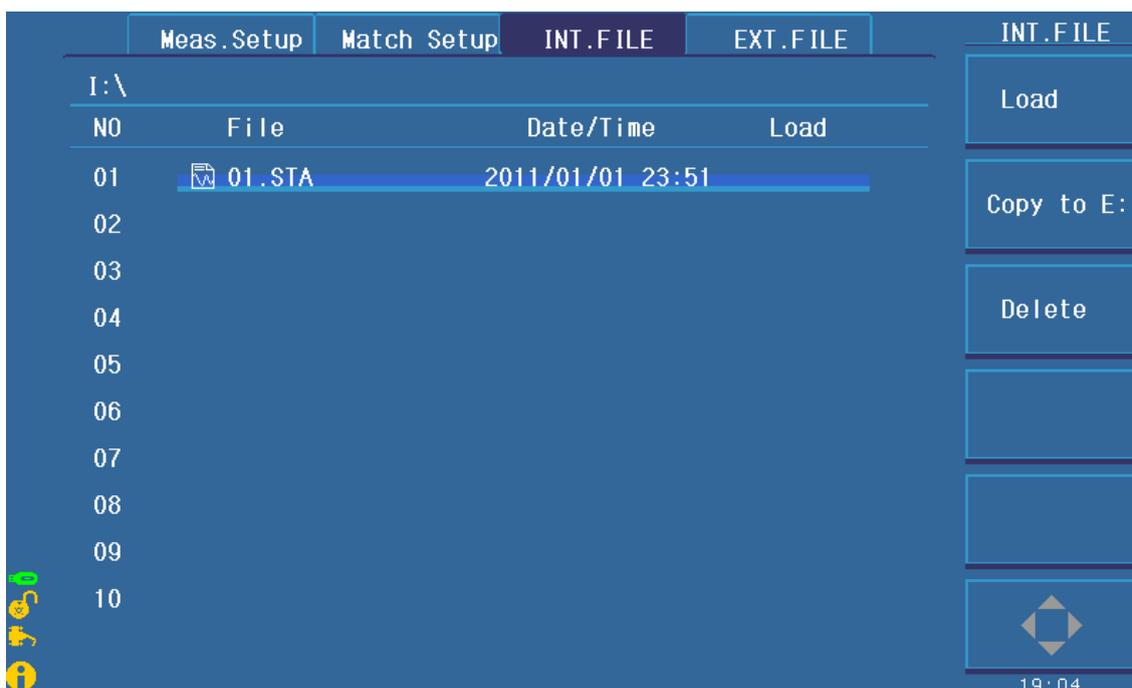

Figure 5-3 Internal File
ST2883 series can save parameters that are set by user to the internal non-volatile memory in file format. User can load the file to use these parameters instead of resetting. The internal memory can store 100 files including files of measure parameters, compare parameters, etc. Figure 5-3 shows the page of internal file.
- ✧ **Load** Press this key to load a file stored in the internal non-volatile memory. As figure 5-3 indicates, using the arrow key or the roller can select the needed file. Press **LOAD** to load the file. If the selected file is needed to load, press **YES**; otherwise, press **NO**.